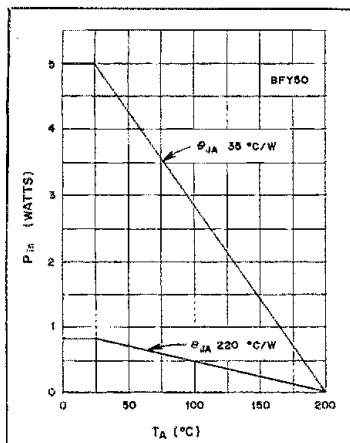
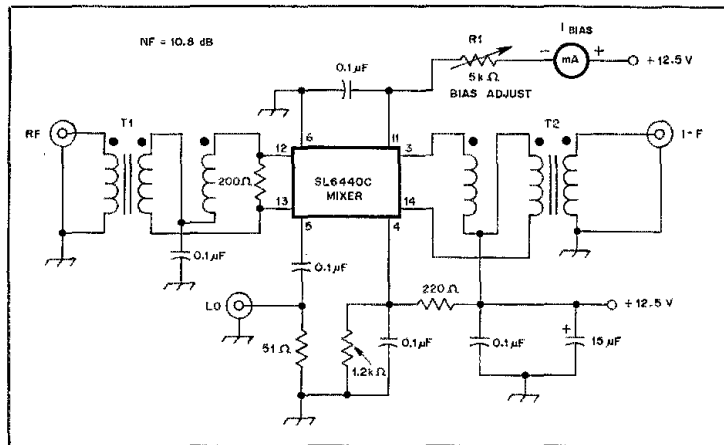

Fig. 4 — Derating curves of a BFY50.
Fig. 3 — Test circuit for the Plessey SL6440C mixer IC.
This is the power which a BFY50 will handle in surroundings having a temperature not exceeding 25°C . The derating curves are given in Fig. 4. Let the power dissipated be 2 W.
Fig. 3 contains the circuit of the SL6440C as it was configured for laboratory analysis. R1 was used to adjust the quiescent current of the mixer. Table 1 shows the test results at various LO and signal-input levels. The spectral displays of Fig. 4 show the LO and LO harmonics to i-f-port isolation (A). With 0 dBm of LO input power the isolation was 29 dB. The 2f LO isolation was measured at -72 dB.
Spectral photograph B of Fig. 4 shows the rf port to i-f port isolation as being 48 dB when the LO level was 0 dBm and the rf-input level was -10 dBm, PEP. Photograph C is the two-tone output of the mixer. Table 2 contains data on conversion gain, intercept numbers and port isolation with various I_p amounts. These data were compiled with an LO injection of 0 dBm and an rf input of -5 dBm.